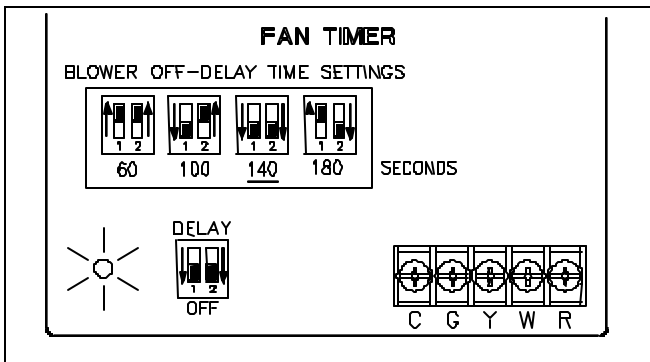

Figure 33. Heating Blower Off-Delay.
2. Determine switch settings for desired heating blower off-delay. See Figure 33.